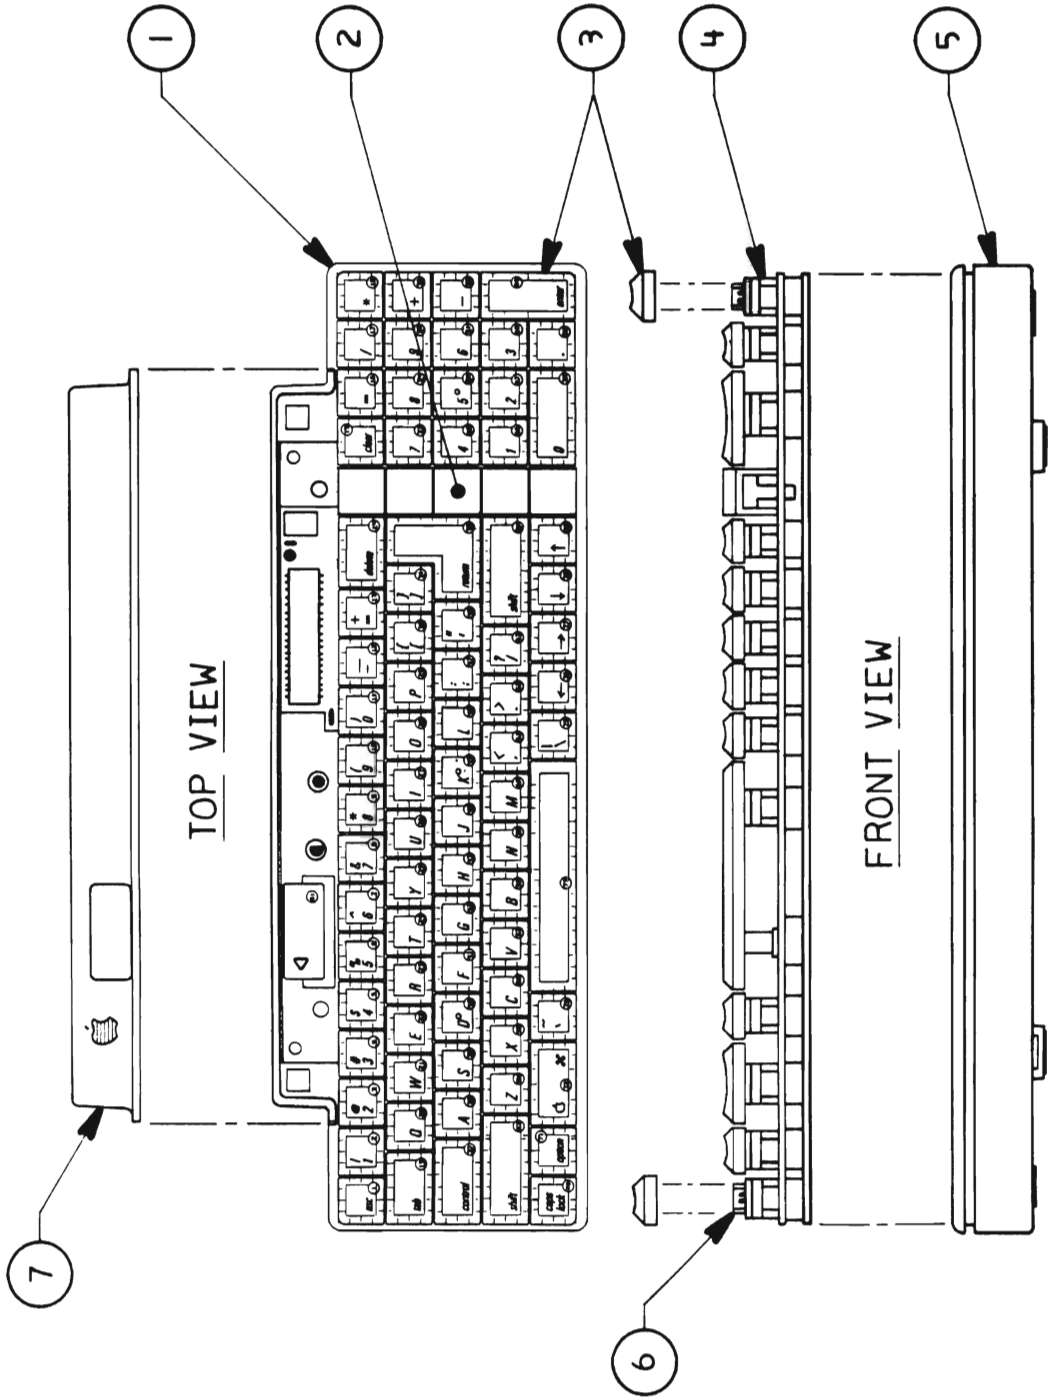

FIGURE 3
- IPL.7 Keyboard (Figure 3)
**□ APPLE IIgs – KEYBOARD (Figure 3)**